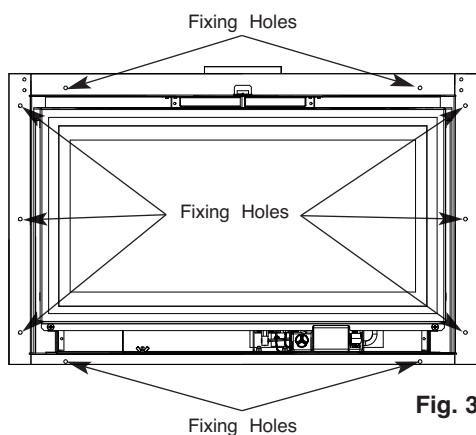

Fig. 38
9. Secure the fire box to the wall using the fixing holes provided in the fire box flange (Fig. 38).